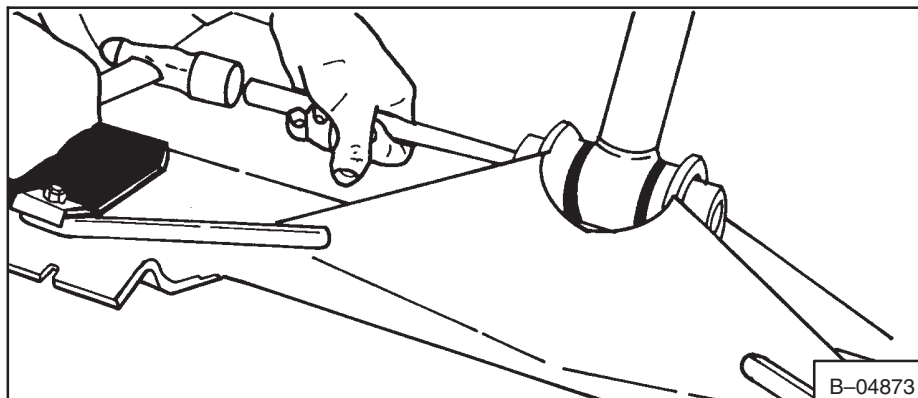

**Fig. 2-79** Removing Lockbolt
4. Remove the locknut and bolt from the pin at the rod end of the cylinder (Fig. 2-79).